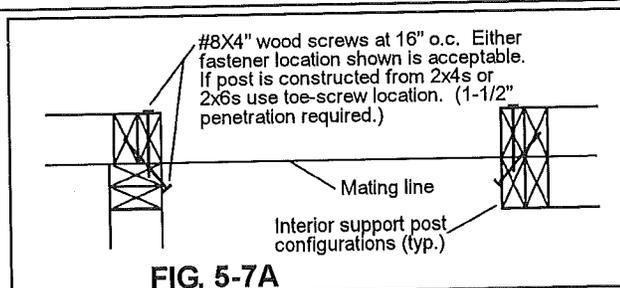

FIG. 5-7A
10. If home has double mating walls, then fasten the mating wall columns together with $\#8 \times 4"$ screws $16"$ o.c. See Figure 5-7A.